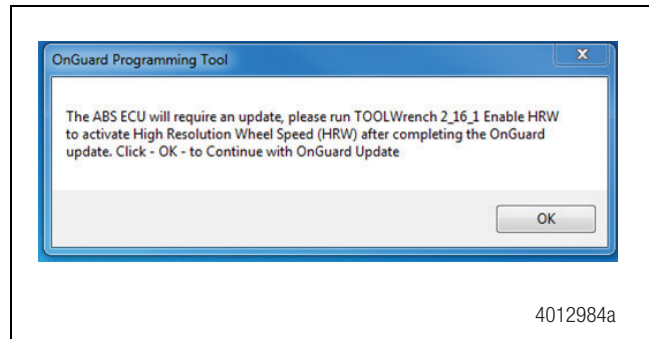

Figure 10
- **If the HRW parameter is not turned on:** A message will be displayed as shown in Figure 10. The ABS ECU will require an update after the OnGuard update is complete. Refer to the "E4 ABS ECU HRW UPDATE" section later in this technical publication. Select "OK" to continue updating the radar.
If the message “Please run TOOLWrench 2_16_1 Enable HRW” came up while updating the OnGuard™ software (Figure 10), the E4 ABS ECU will now need to be updated. The E4 ABS update TOOLWrench is located in the folder that was downloaded from the WABCO website.